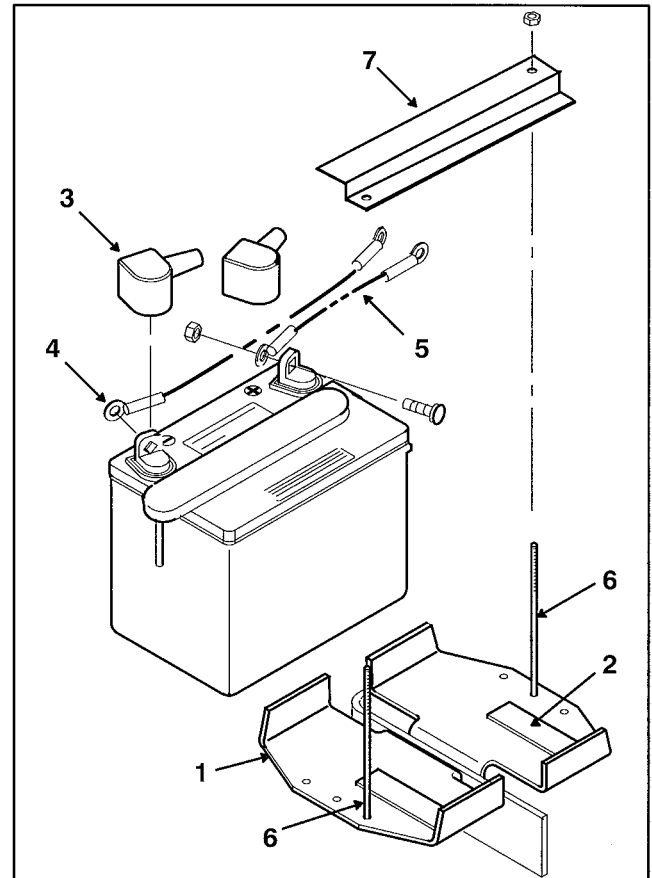

Figure 7
- Mount battery to holders with (2) support rods, battery clamp and (2) locknuts. Position support rods in mounting holes as shown in fig. 7. Tighten locknuts so battery is held securely in position and will not slide. DO NOT OVERTIGHTEN.